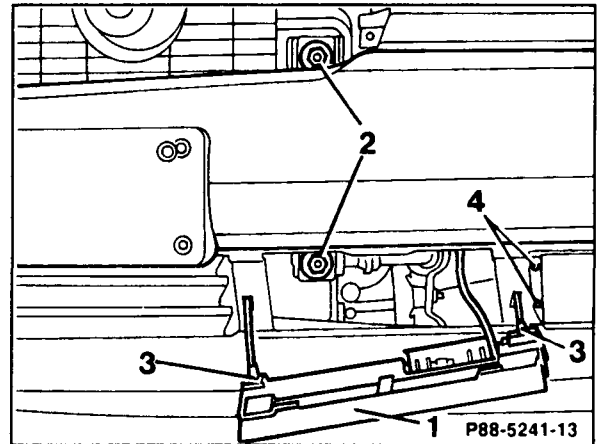

Figure 7
19. Remove retaining straps (3, Figure 7) from mounting bolt access flaps (1) and snap into AMG flaps.
20. To adjust driving lamps, open access flaps and adjust lamps by turning Phillips head screws (4, Figure 7).